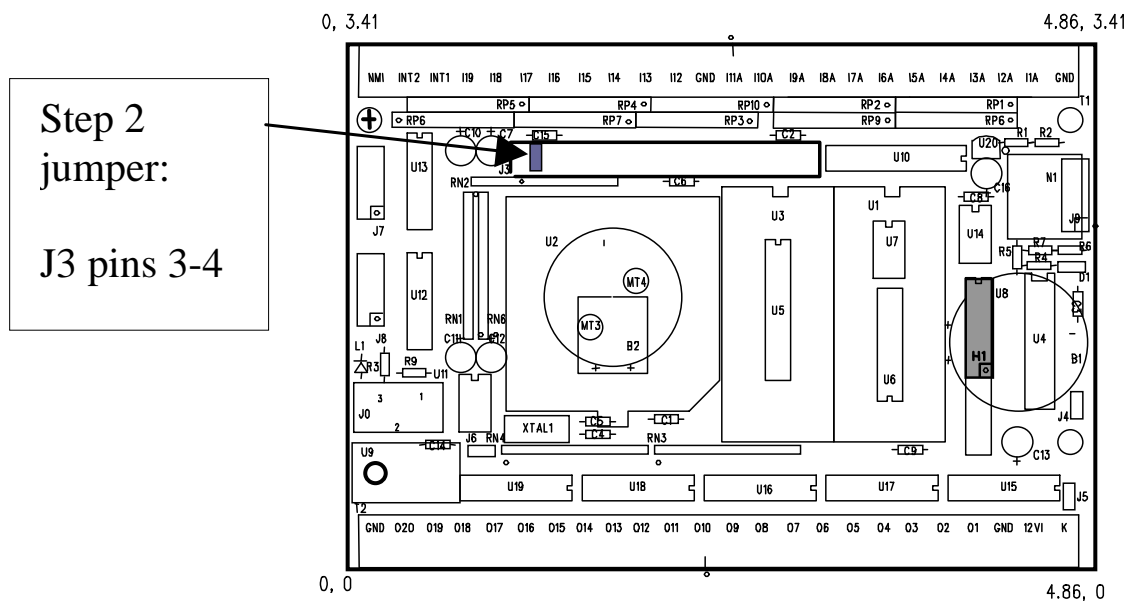

Figure 1.5 Location of Step 2 jumper on the TinyDrive
- Set the jumper on J3 pins 3 and 4 on the TinyDrive (Figure 1.5).